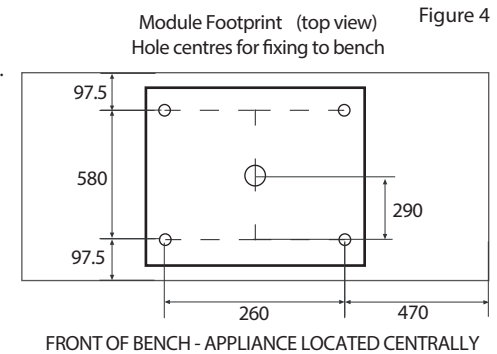

Figure 4
- Using the Module footprint dimensional guide (figure 4), mark out the transport bracket hole centre on the bench.